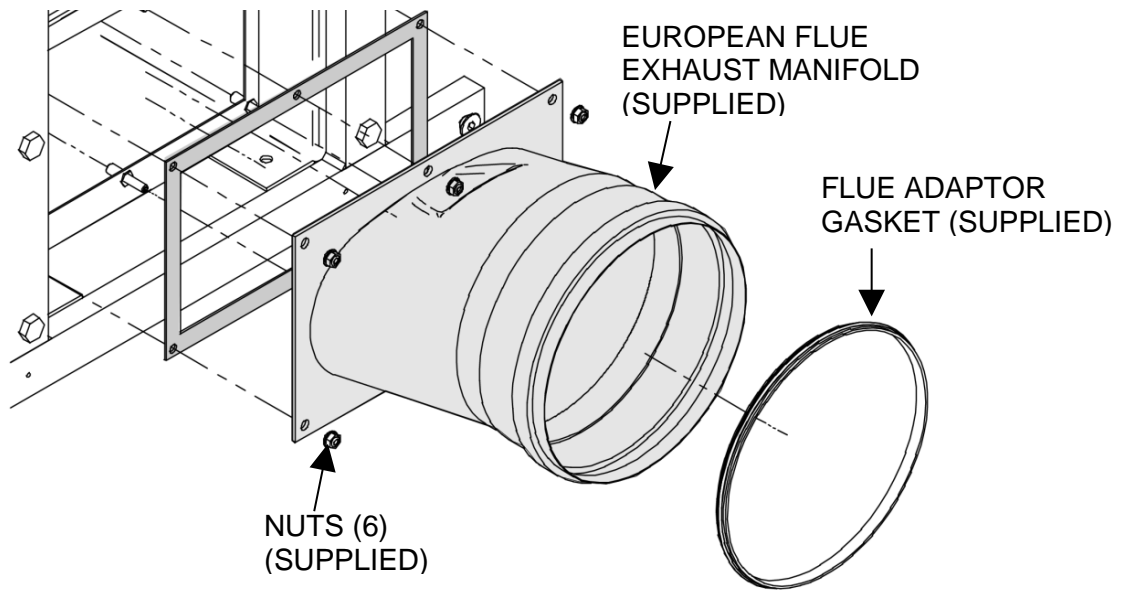

Figure 11: Connection of Exhaust Manifold to Flue Exhaust Outlet (EXT 321 – 1123)
- Install supplied vent pipe starter piece at the boiler vent connector and work toward the vent or rain cap. To attach the exhaust connector to the flue collector, use the screws and the gasket supplied inside the plastic bag. Use a 14mm socket wrench with at least a 12 inch (300 mm) extension. See Figures 11 and 12.